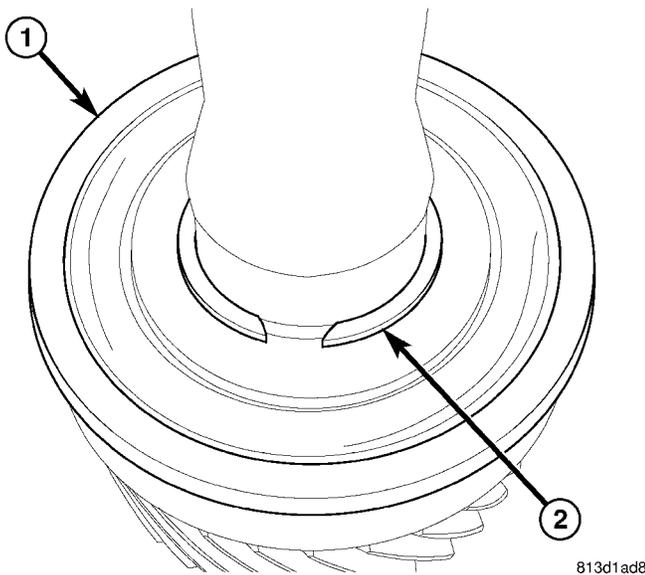

Fig. 42 INPUT SHAFT BEARING SNAP RING
(1) Remove input shaft bearing (1) (Fig. 42) snap ring (2).